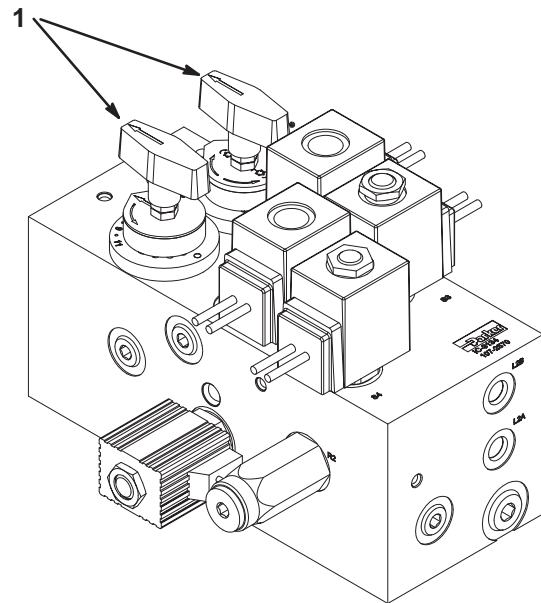

Figure 37
4. To set the reel speed, rotate the knob (Fig. 37) until the indicator arrows are in line with the number designating desired setting.